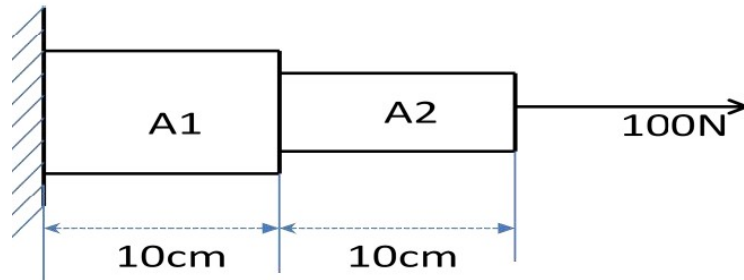

Fig.2
- 4 Consider a bar as shown in fig.2. Young's Modulus $E = 2 \times 10^5$ N/mm². [14M]